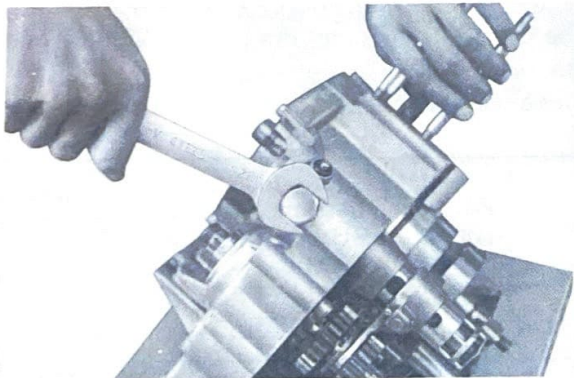

Fig. 4-16-5
(2) Remove the neutral stopper mechanism. (Figs. 4-16-5, 6)